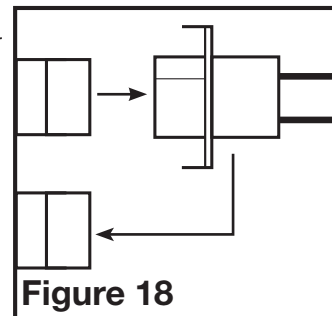

Figure 18
2. Disconnect the harness from the capacitor at the quick connect fitting and remove the "Boost Label" from the quick connect fitting on the boost capacitor (**Figure 18**).